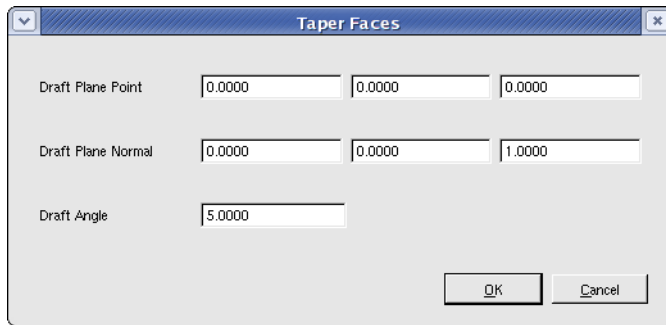

Figure 40 Taper Faces dialog box
5. Enter the draft plane center, the draft plane normal, and the draft angle in the Taper Faces dialog box (see Figure 40).